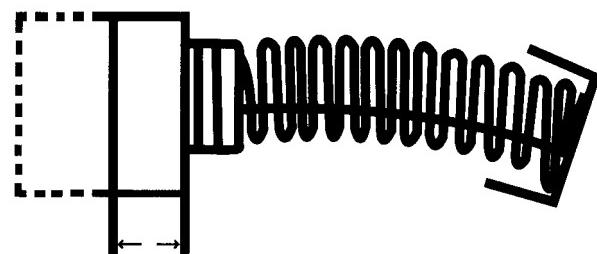

Figure 10 – Carbon Brush Wear
1. Replace carbon brushes when they wear down to about  $\frac{1}{4}$ " (6mm) or sparking will occur. Both brushes should be changed at the same time (Figure 10).